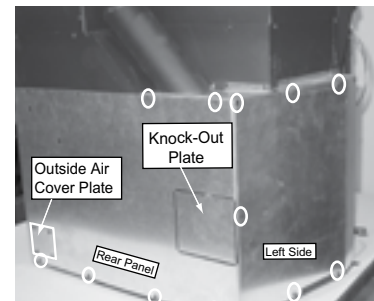

Figure 18.3
Top Vent Applications: Leave knock-out plate in place. **Figure 18.3**
1. Install rear panel using 4 screws along bottom and 2 screws into the left shroud corner piece at the top. **Figure 18.3.**
3. Attach left shroud panel using seven screws, 3 on top and bottom and 1 along the side. **Figure 18.3.**